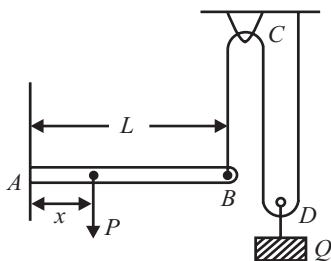

Fig. 7.12
Q. 14: A beam AB (fig. 7.12) is hinged at A and supported at B by a vertical cord, which passes over two frictionless pulleys C and D. If pulley D carries a vertical load Q , find the position x of the load P if the beam is to remain in equilibrium in the horizontal position.